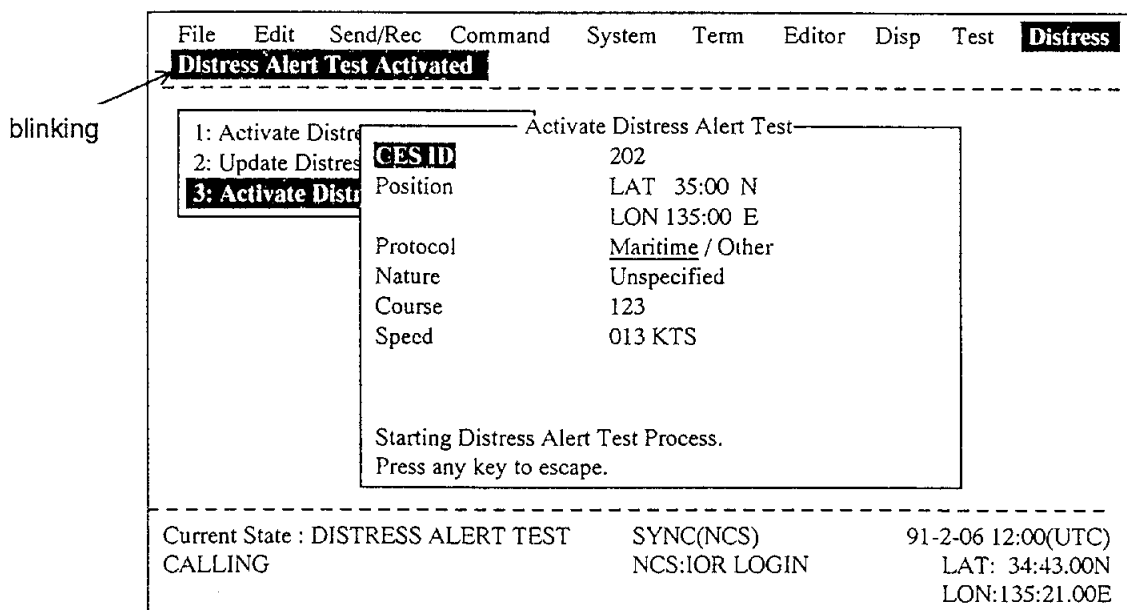

Figure 6-11 Appearance of Screen During Distress Alert Testing
6. Transmission begins and the screen now looks similar to Figure 6-11.